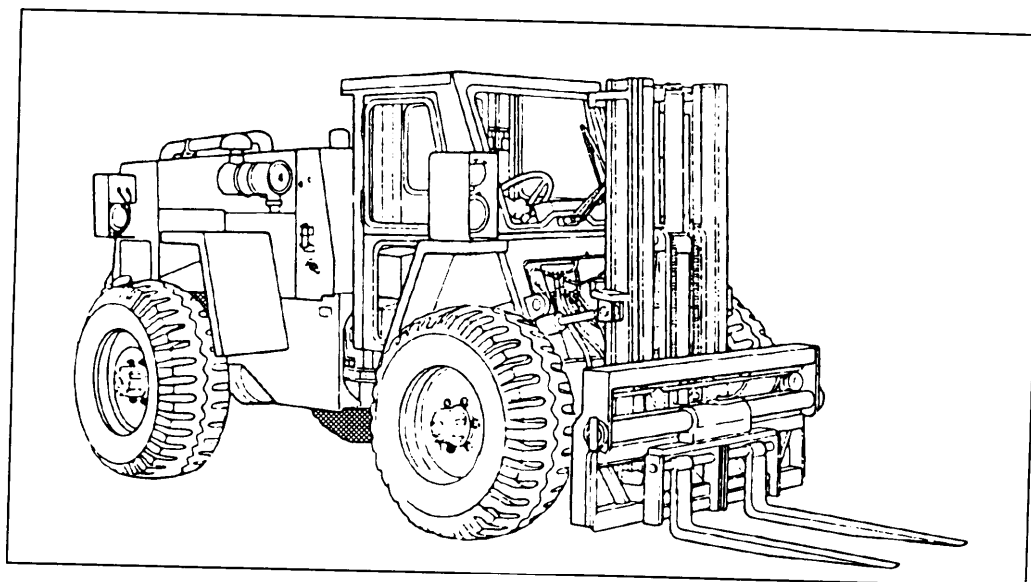

Figure 8-2.—4K rough-terrain (RT) forklift.
The 4K rough-terrain (RT) forklift (fig. 8-2) is a diesel engine-driven, rubber-tired, self-contained, rider type of mechanized materials-handling vehicle. They are designed to lift loads of 4,000-pound capacity with a 24-inch load center to a maximum height of 100 inches. The lifting forks are mounted on the front of the vehicle and the engine faces the rear. Controls for operating the lifting forks (lifting, tilting, rotating, and side shifting) are located to the right when the operator is sitting in the operator's seat.